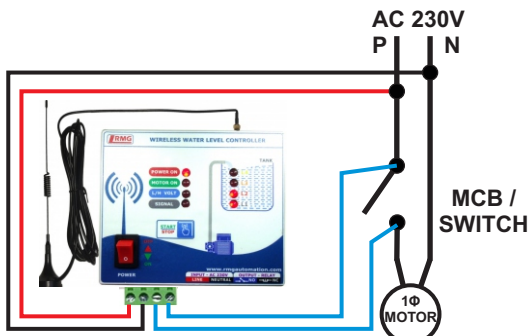
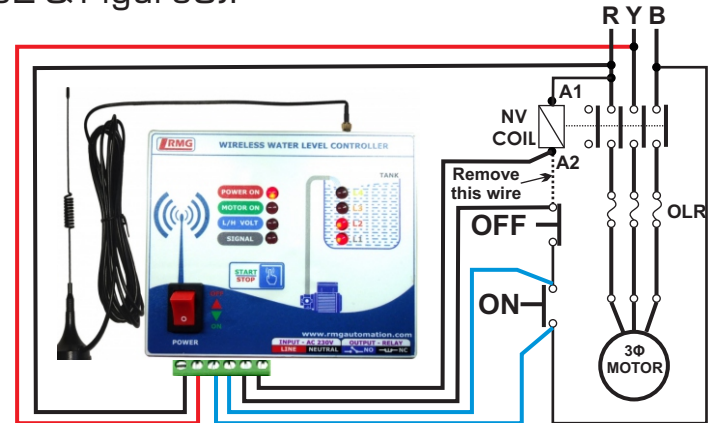

Figure1: 1Φ SWITCH/MCB
Figure2: 3Φ Starter
Step 2: As per the model purchased, check the label and connect AC supply (AC 230/440V) to 1st and 2nd terminal of the controller (Refer figure 1 or figure 2).
Step 3: For switch or MCB, connect the blue pair wire to the switch in parallel as shown in figure 1.
Step 4: For starter, connect blue pair wire to ON button in parallel and black pair wire to OFF button in series. (Refer to figure 2 & Figure 3).